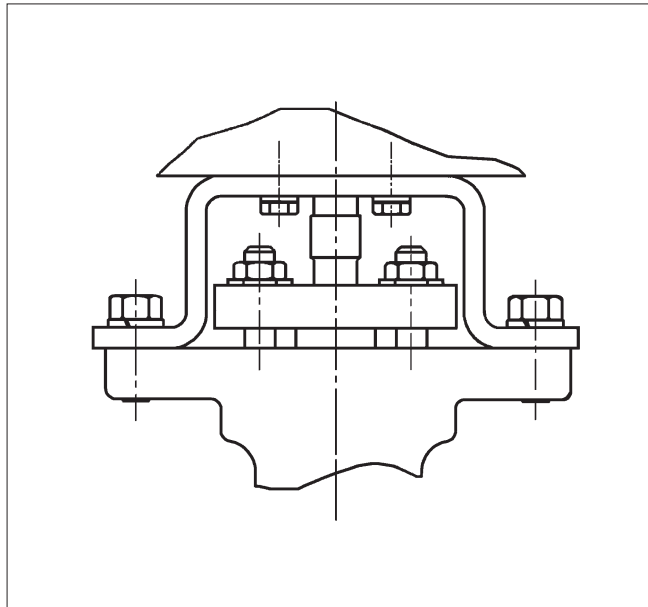

Figure 13.
4. Lower actuator and bracket onto valve while engaging actuator stem driver into coupling. Tighten screws just enough to firmly mate bracket to valve. This should allow bracket to shift, allowing the coupling to align the valve and actuator shafts. (**See Figure 13, Step 3A.**)
5. Tighten the no-play coupling screws to torques shown in **(Figure 13, Step 3B)**. Use alternating sequence shown.
7. Fully tighten the screws holding the bracket to the valve, as shown in **(Figure 13, Step 3C)**.
8. Recheck no-play coupling screw torques, using the torques in **(Figure 13, Step 3B)**. Use alternating sequence shown.